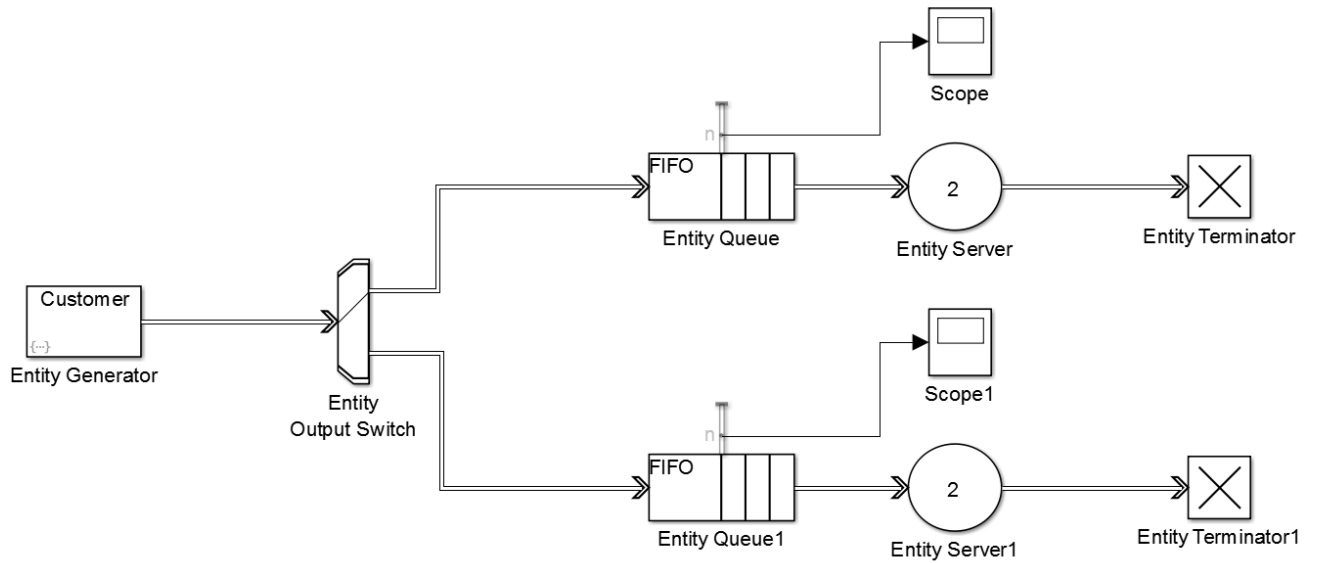

Figure 16: Exercise 5
1. Build the model shown in Figure 16 by adding the extra block from Table 3. Since the hot food station is a replica of the blocks for the sandwich station, a simple copy and paste can be performed. The top most path will be the sandwich station.